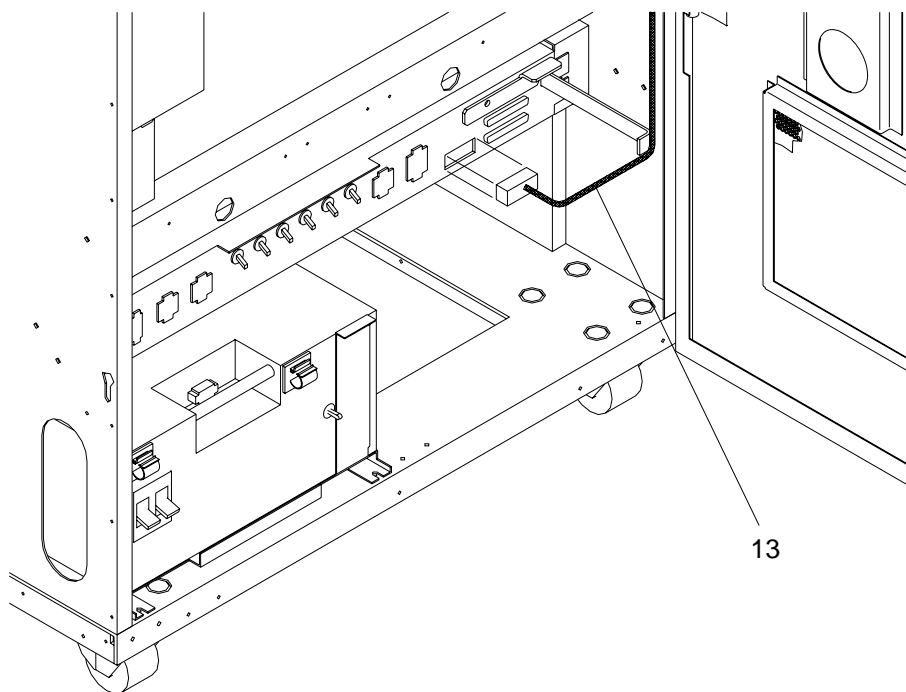

Figure 11. 3746-950 UEPO Cable connection.
- ___ 8. Route the UEPO cable **13** thru the clamp along the frame to the bottom of the machine, then connect it to the distribution box (Position 07H-A1-J6) See Figure 11.